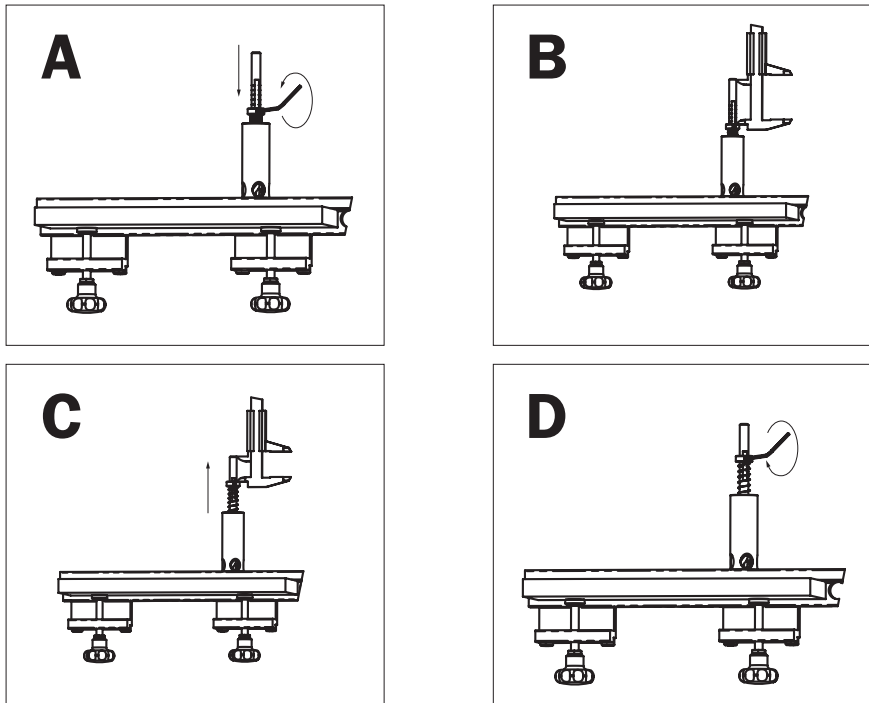

Fig. 3
Setting procedure is shown in **(Fig. 3)**. Tighten the work piece to the system. Insert the chuck adaptor in the 18mm diameter hole so that, after pressing on the shank, the point of the drill bit touches the work piece. Loosen the adjustment ring screw (a hex key 2 is included in the CMT400-1 and CMT400-2 kit) and press the ring towards the drill until the spring is entirely compressed **(Fig. 3A)**.